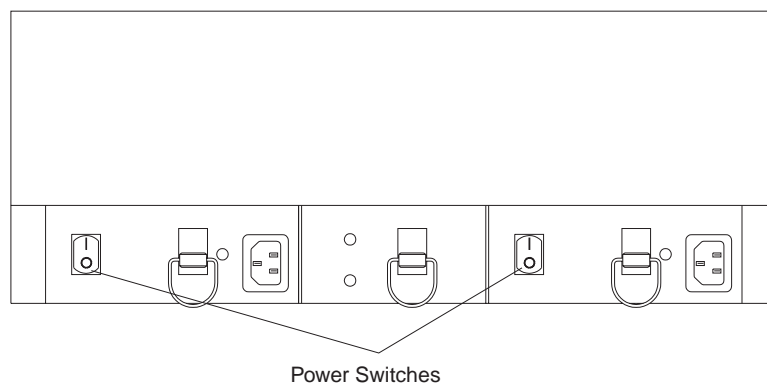

Figure 5. Controller Unit Power Switches
After a normal shutdown. Turn on both power switches on the back of the controller unit (Figure 5 on page 5). You must turn on both switches to take advantage of the redundant power supplies. Then, go to "Using the Status LEDs."
- c. Based on this power-up sequence, turn on the power to each device, including applicable circuit breakers in rackmount cabinets. When the activity to the disk drives has quiesced, turn on both controller unit power switches (Figure 5 on page 5).
3. Turn off the power switches on the controller unit before removing power from drive modules (Figure 5 on page 5).
2. Plug in the power cords and turn on the power (Figure 5 on page 5).